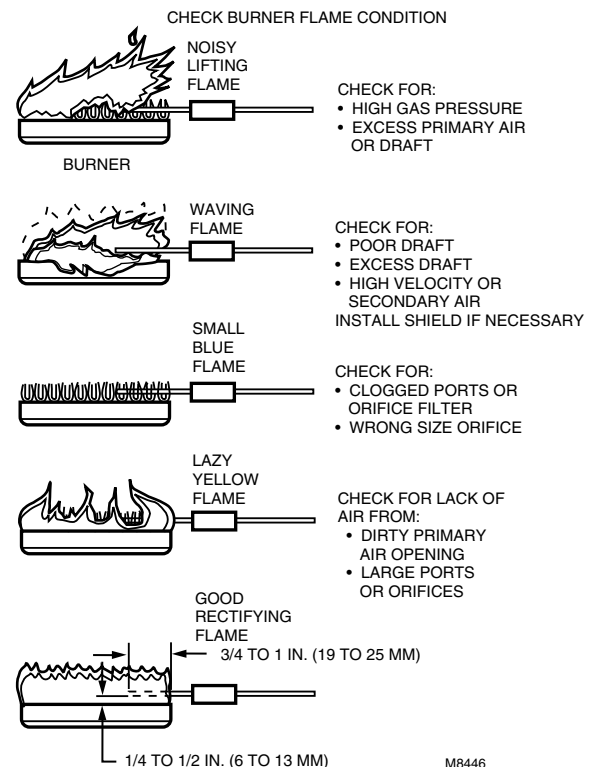

Fig. 7. Check burner flame condition.
- Check the burner flame condition. The igniter-sensor or sensor must be constantly immersed in flame. Check the burner flame condition as shown in Fig. 7. Do not relocate the hot surface igniter or flame rod.
- a. Make sure the burner flame is capable of providing a good rectification signal. See Fig. 7.
- b. Make sure about 3/4 to 1 in. of the flame sensor or igniter-sensor is continuously immersed in the flame for the best flame signal. See Fig. 7.